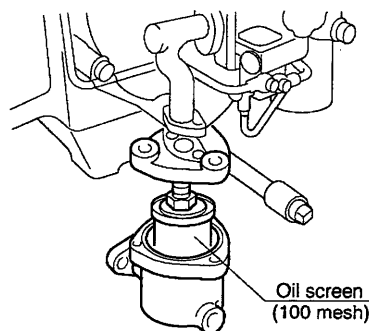

Fig. 40
(1) Oil screen blocks coarse dirt. (Fig. 40)